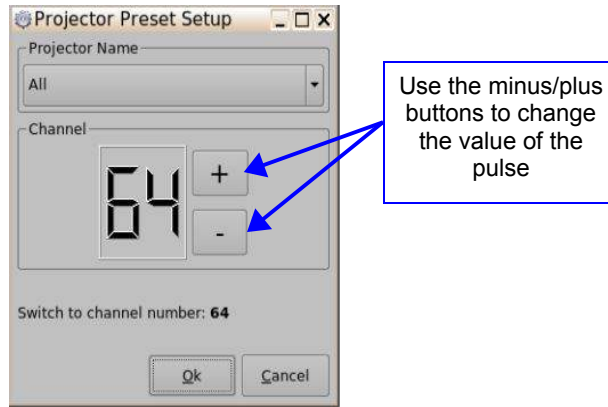

Figure 12: Projector Preset Setup Window
- The user can configure the Channel Switch Settings on the Projector Preset Setup window (Figure 12).